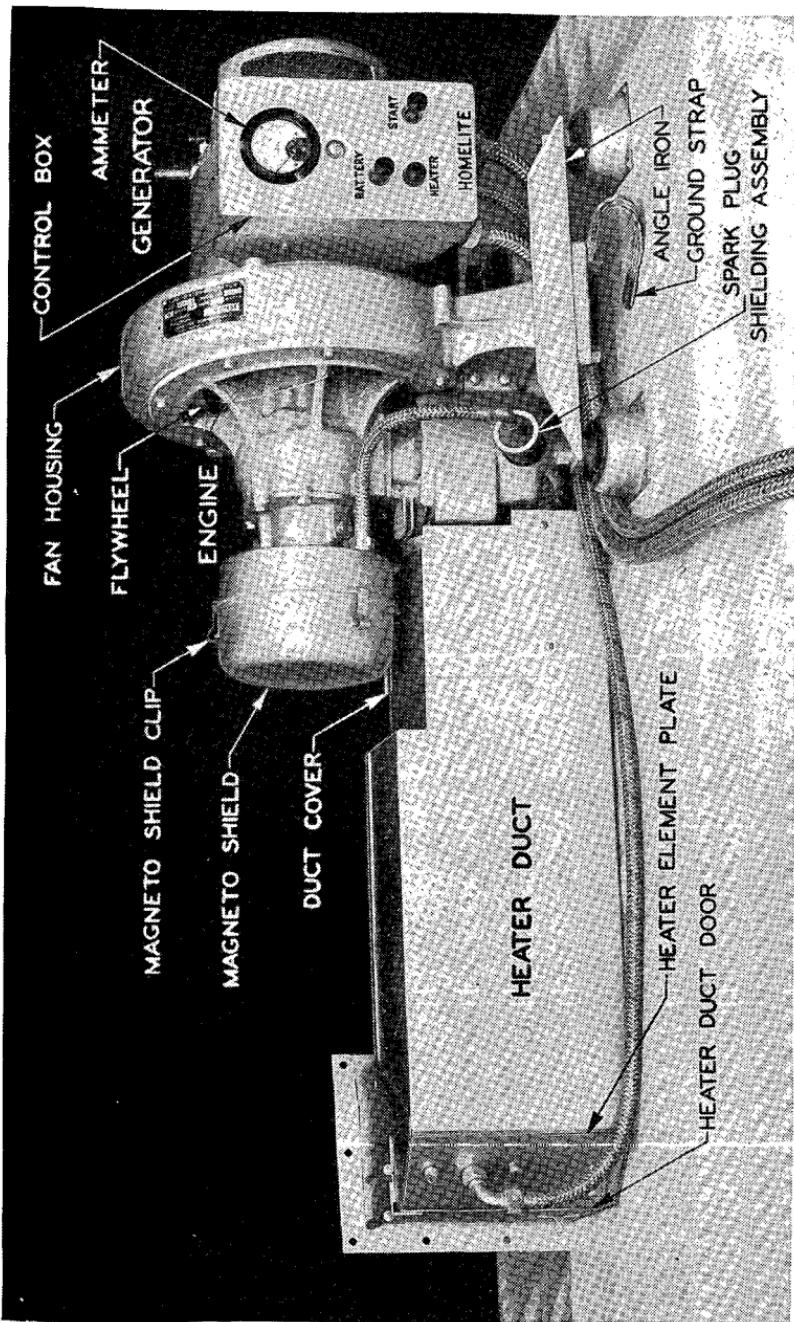
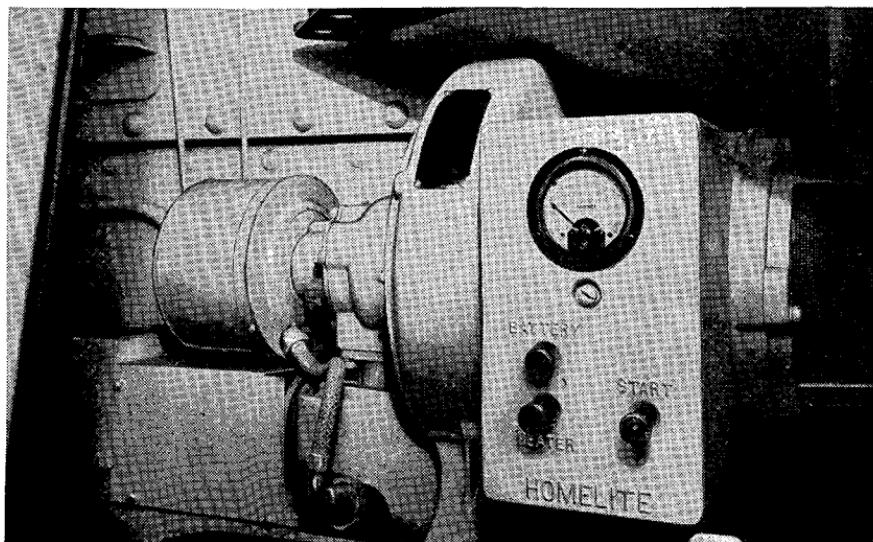

FIGURE 1.—Auxiliary generator model HRH-28—right side.
FIGURE 3.—Auxiliary generator installed in medium tank M3.
2. Description.—*a. General.*—The heater-generator model HRH-28 is a self-contained machine designed for supplying 1,500 watts, 30 volts, d-c power for charging the tank batteries, and also for preheating the tank engine in cold weather by means of heat from an electric heater element and heat from the generator engine (figs. 1 and 2). In addition, the unit can be utilized for heating the crew compartment. It consists essentially of an electrical generator with controls, directly coupled to, and driven by, a gasoline engine. The unit is mounted in the crew compartment on four shock-absorbing feet, and with a metal heater duct extending from the unit to the tank engine compartment (fig. 3).
b. Components.—(1) *Gasoline engine.*—The gasoline engine supplied is a Homelite model HR, 3,400-3,600 rpm, 2-cycle, single-cylinder, air-cooled, inverted type (fig. 1). The engine is started by means of a button on the control box. A starting rope approximately 45 inches long with grip is supplied for emergency manual starting.
(2) *Generator.*—The generator is a Homelite model HR-28, 30-volt, d-c type of 1,500 watts rating, with a control box attached (fig. 1).
(3) *Heater duct.*—The heater duct runs from the generator unit to the engine compartment and contains the generator engine exhaust system and electric heater element (figs. 1 and 2).
(2) Depress the starting button on the control box (fig. 1). Release the button as soon as the engine starts and immediately open the choke partially, easing to full open position as the engine warms up.
Depress the starting button on the control box (fig. 1). Release the button as soon as the engine starts.
d. Emergency manual starting.—If batteries are dead or generator is to be started for testing, it may be started manually. To accomplish this, pry open the three clips holding the shield over the magneto, with a screw driver, and remove the front half (fig. 1). Wind the starting rope counterclockwise on the starting plate which is then exposed. Use the choke as in *b* or *c* above. Pull the rope hard, giving a quick spin to the engine. Repeat if necessary until the engine starts.
4. Control.—*a. Battery charging.*—Depress the battery button on the control box (fig. 1) if it is not already in as far as it will go. The output of the generator is then utilized to charge the batteries. The charging rate is indicated by the ammeter on the control box. Full rate on discharge batteries is approximately 50 amperes. As the batteries become more fully charged, the charging rate tapers off. With almost fully charged batteries, it is approximately 5 amperes. These figures are general, and assume no load on the batteries.
b. Cold weather starting of main engine.—To raise the temperature in the main engine compartment to facilitate cold weather starting, depress the heater button on the control box as far as it will go (fig. 1). This permits the heater element in the forward end of the duct to utilize the full electrical output of the generator. The heat from the generator engine is also directed into the main engine compartment.
c. Heating crew compartment.—Follow instructions as in *b* above. Then open the door in the end of the heater duct (fig. 1) by lifting up. Fold this door back along the top of the duct so that the handle fastens in the catch. To reclose the door, unfasten the handle and slide the door down into its normal position.
(1) Pry open the three clips on the shield over the magneto with a screw driver (fig. 1) and take off the front half.
(2) Remove the magneto rotor by loosening the rotor nut which is then exposed. Do not remove the three screws holding the starting plate to rotor.
(3) Remove the spark plug as in preceding instructions (*a* above) to relieve compression, and permit turning the flywheel which is located in the fan housing (fig. 1).
(4) Turn the flywheel slowly in a counterclockwise direction until the breaker lever fiber on the contact assembly rests on the highest
(b) Pry open the 3 clips on the shield over the magneto with a screw driver (fig. 1) and take off front half.